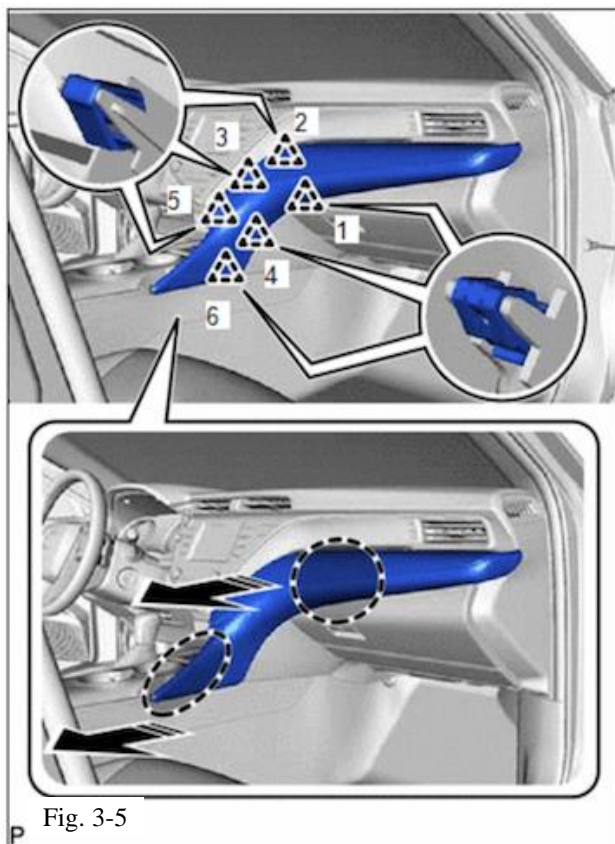

Fig. 3-5
(2) Disengage the 6 clips in the order shown (Fig. 3-5).